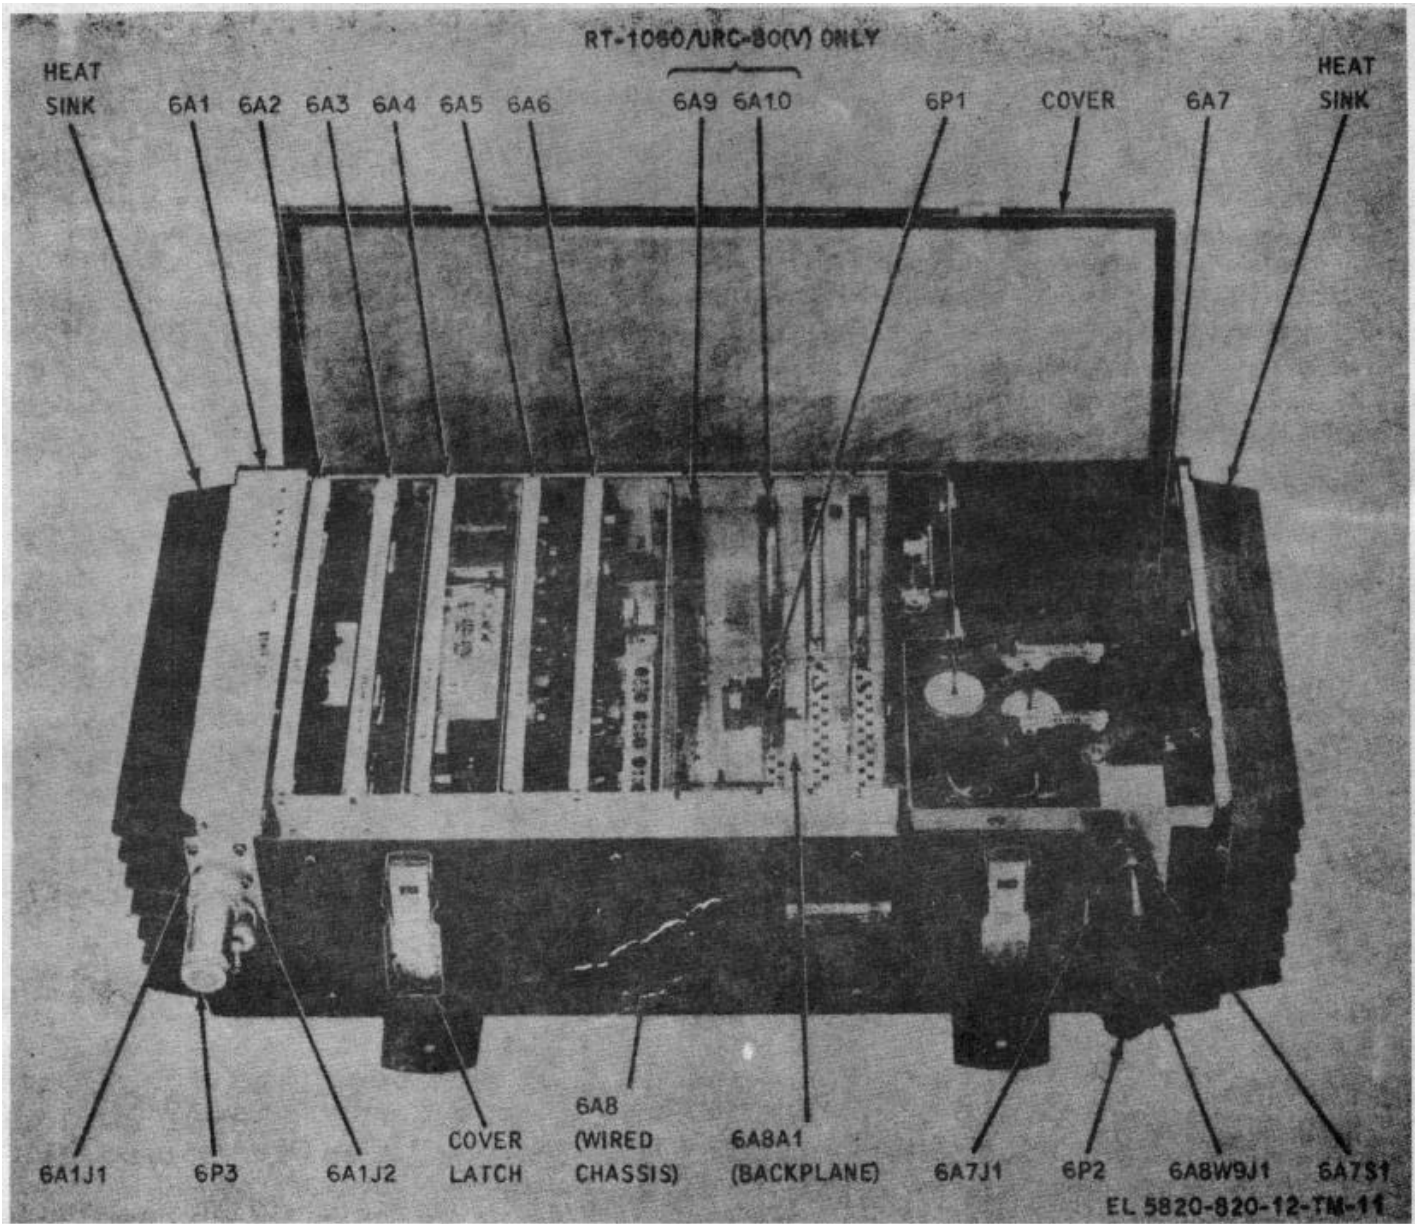
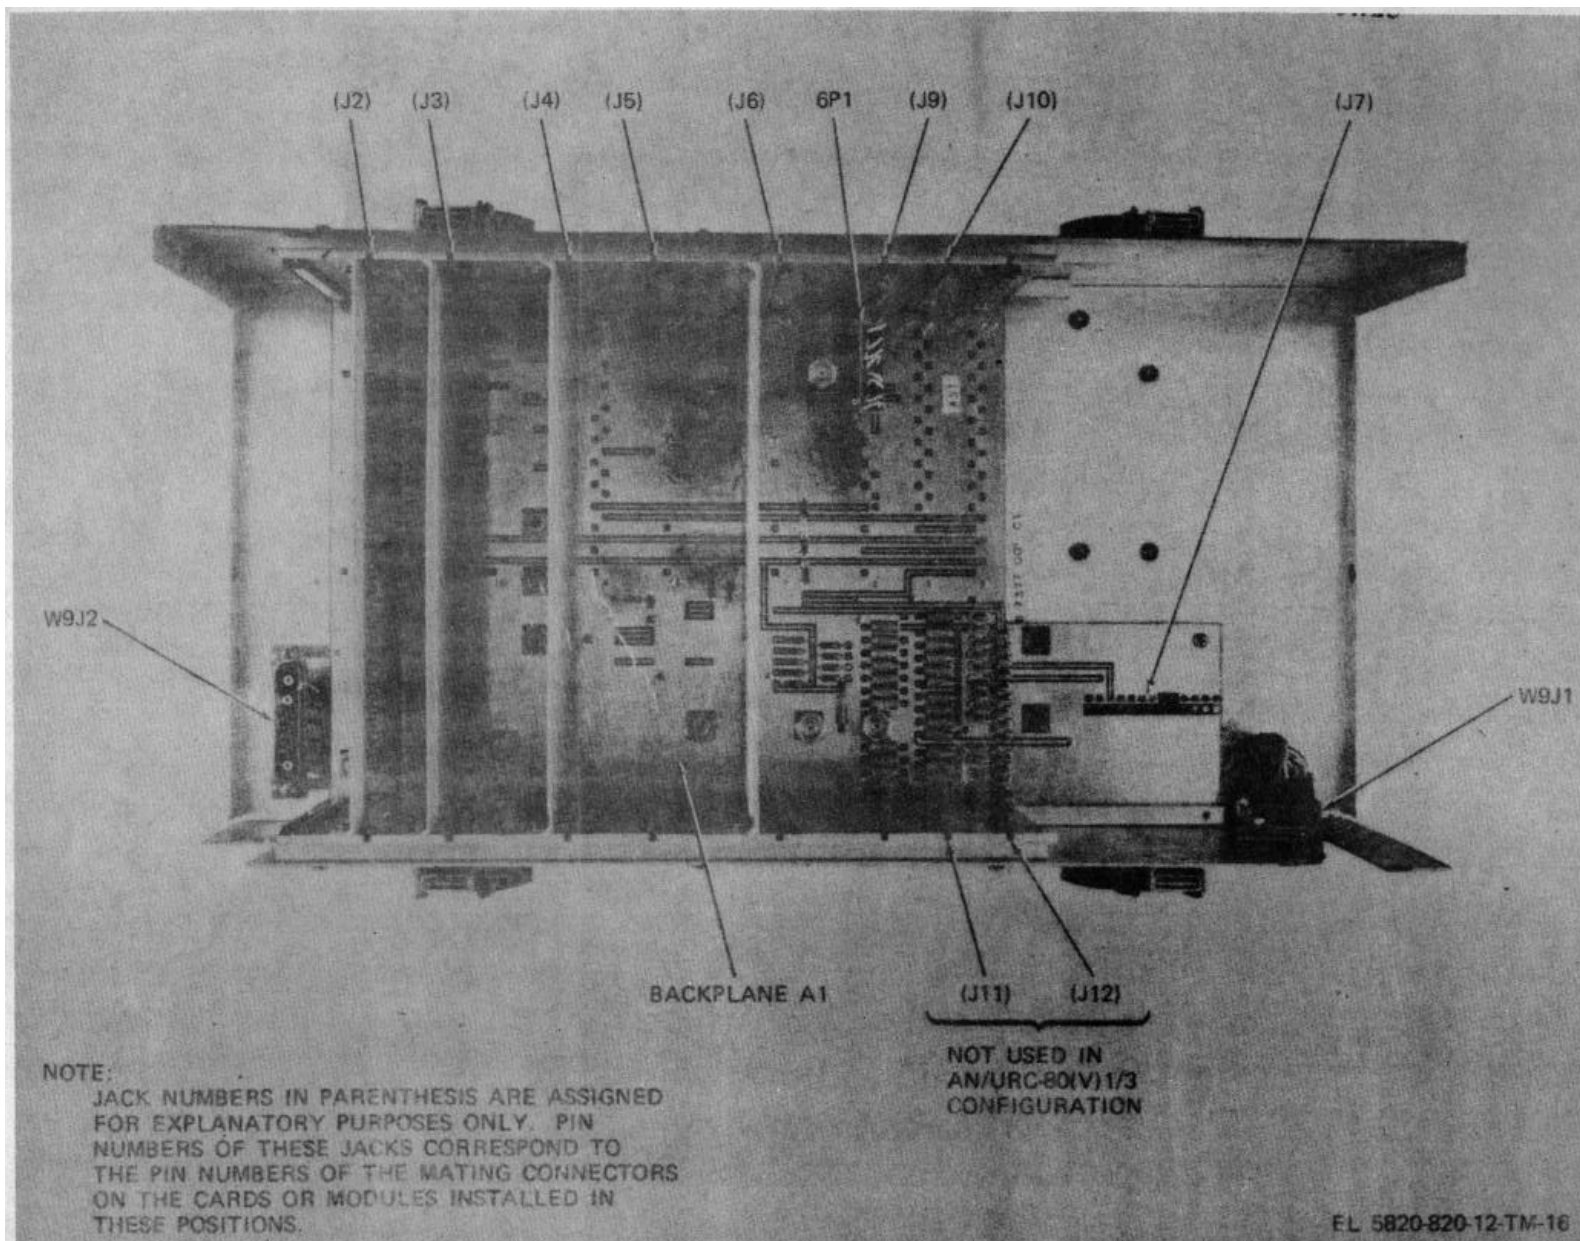
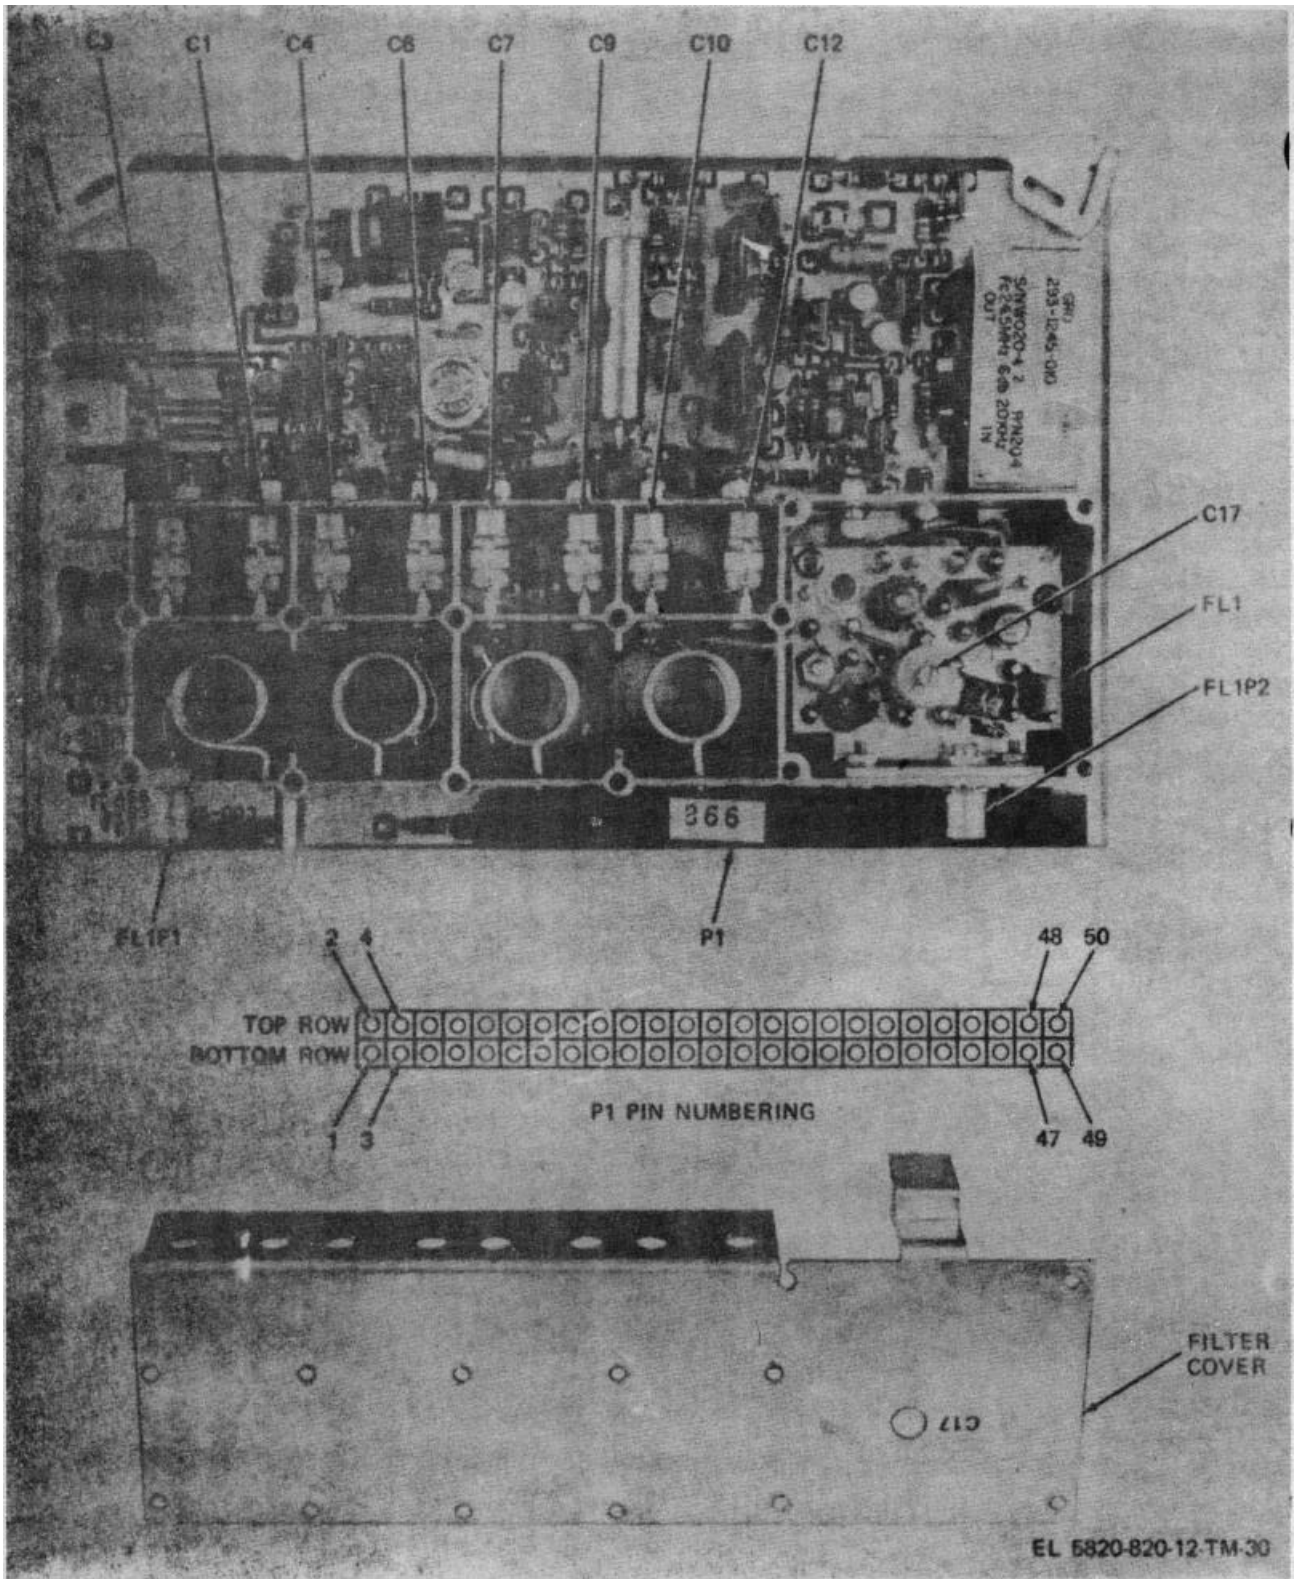

Figure 1-6. Radio Receiver-Transmitter RT-1061/URC-80[V]/RT-1060/URC-80[V].
Figure 1-7. Wired chassis 6A8.
Figure 1-13. Receiver card 6A6 and 6A9.
e. *Radio Receiver-Transmitter RT-1061/URC-80[V].* Radio Receiver Transmitter RT-1061/URC-80(V) (rt unit) (figure 1-6) is contained in a splashproof metallic case with a latch-on cover. The ends of the case are made of cast-aluminum heat-sink sections that dissipate heat from power amplifier module 6A1 and power supply module 6A7 (figure 1-6). Wired chassis 6A8 (figure 1-7) contains the interconnect wiring and backplane A8A1 that has receptacles for the plug-in circuit cards. Card guides in the wired chassis secure the circuit cards in place. Figure 1-6 shows the location of the following plug-in circuit cards and modules that comprise the rt unit.
- (6) Receiver card 6A6 and 6A9 (figure 1-13)
a. There are several models of the AN/URC -80(V) but only the AN/URC-80(V)1 and AN/URC-80(V)3 are described in this manual. The major difference between the two models is in the units that comprise the two radio sets. Table 1-2 identifies the units that make up the AN/URC-80(V)1 and the AN/URC-80(V)3.
b. Differences in the rt units are in the number of circuit cards used. For example, an RT-1061/URC-80(V) is converted to an RT-1060/URC-80(V) by removing connector 6P1 (figure 1-6) and installing auxiliary receiver card 6A9 and injection oscillator card 6A10 in the positions shown in figure 1-6. Table 1-3 lists the major subassemblies that comprise the two rt units. Auxiliary receiver card 6A9 is identical to main receiver card 6A6 (figure 1-13) except that it receives its injection signal from injection oscillator card 6A10 instead of TCXO/multiplier card 6A2. The output frequency of the auxiliary receiver is determined by the frequency of the crystals installed on injection oscillator card 6A10. In the AN/URC-80(V)1, the auxiliary receiver frequency is 156.650 MHz (channel 13, table 3-2). The AN/URC-80(V)3 does not have the auxiliary receiver capacity.